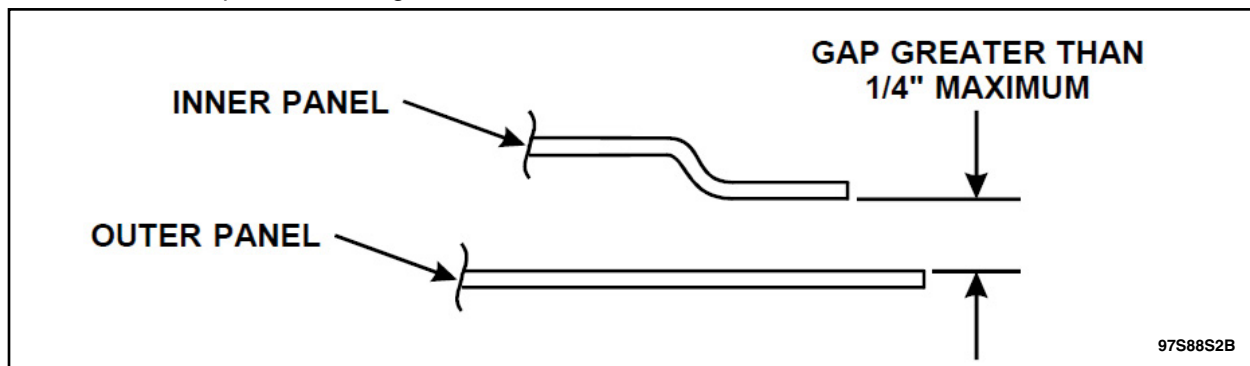

FIGURE 2
- If gap (where adhesive should be applied) is $\frac{1}{4}$ inch or more without the dowel pins installed, contact the SSSC for hood replacement approval. See Figure 2.